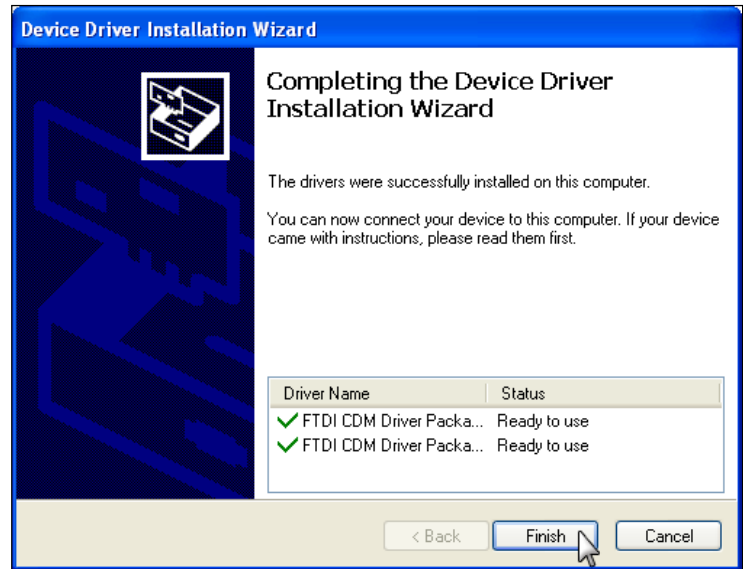

Fig. 35
7. Click *Finish* to complete the Device Driver Installation (Fig. 35).